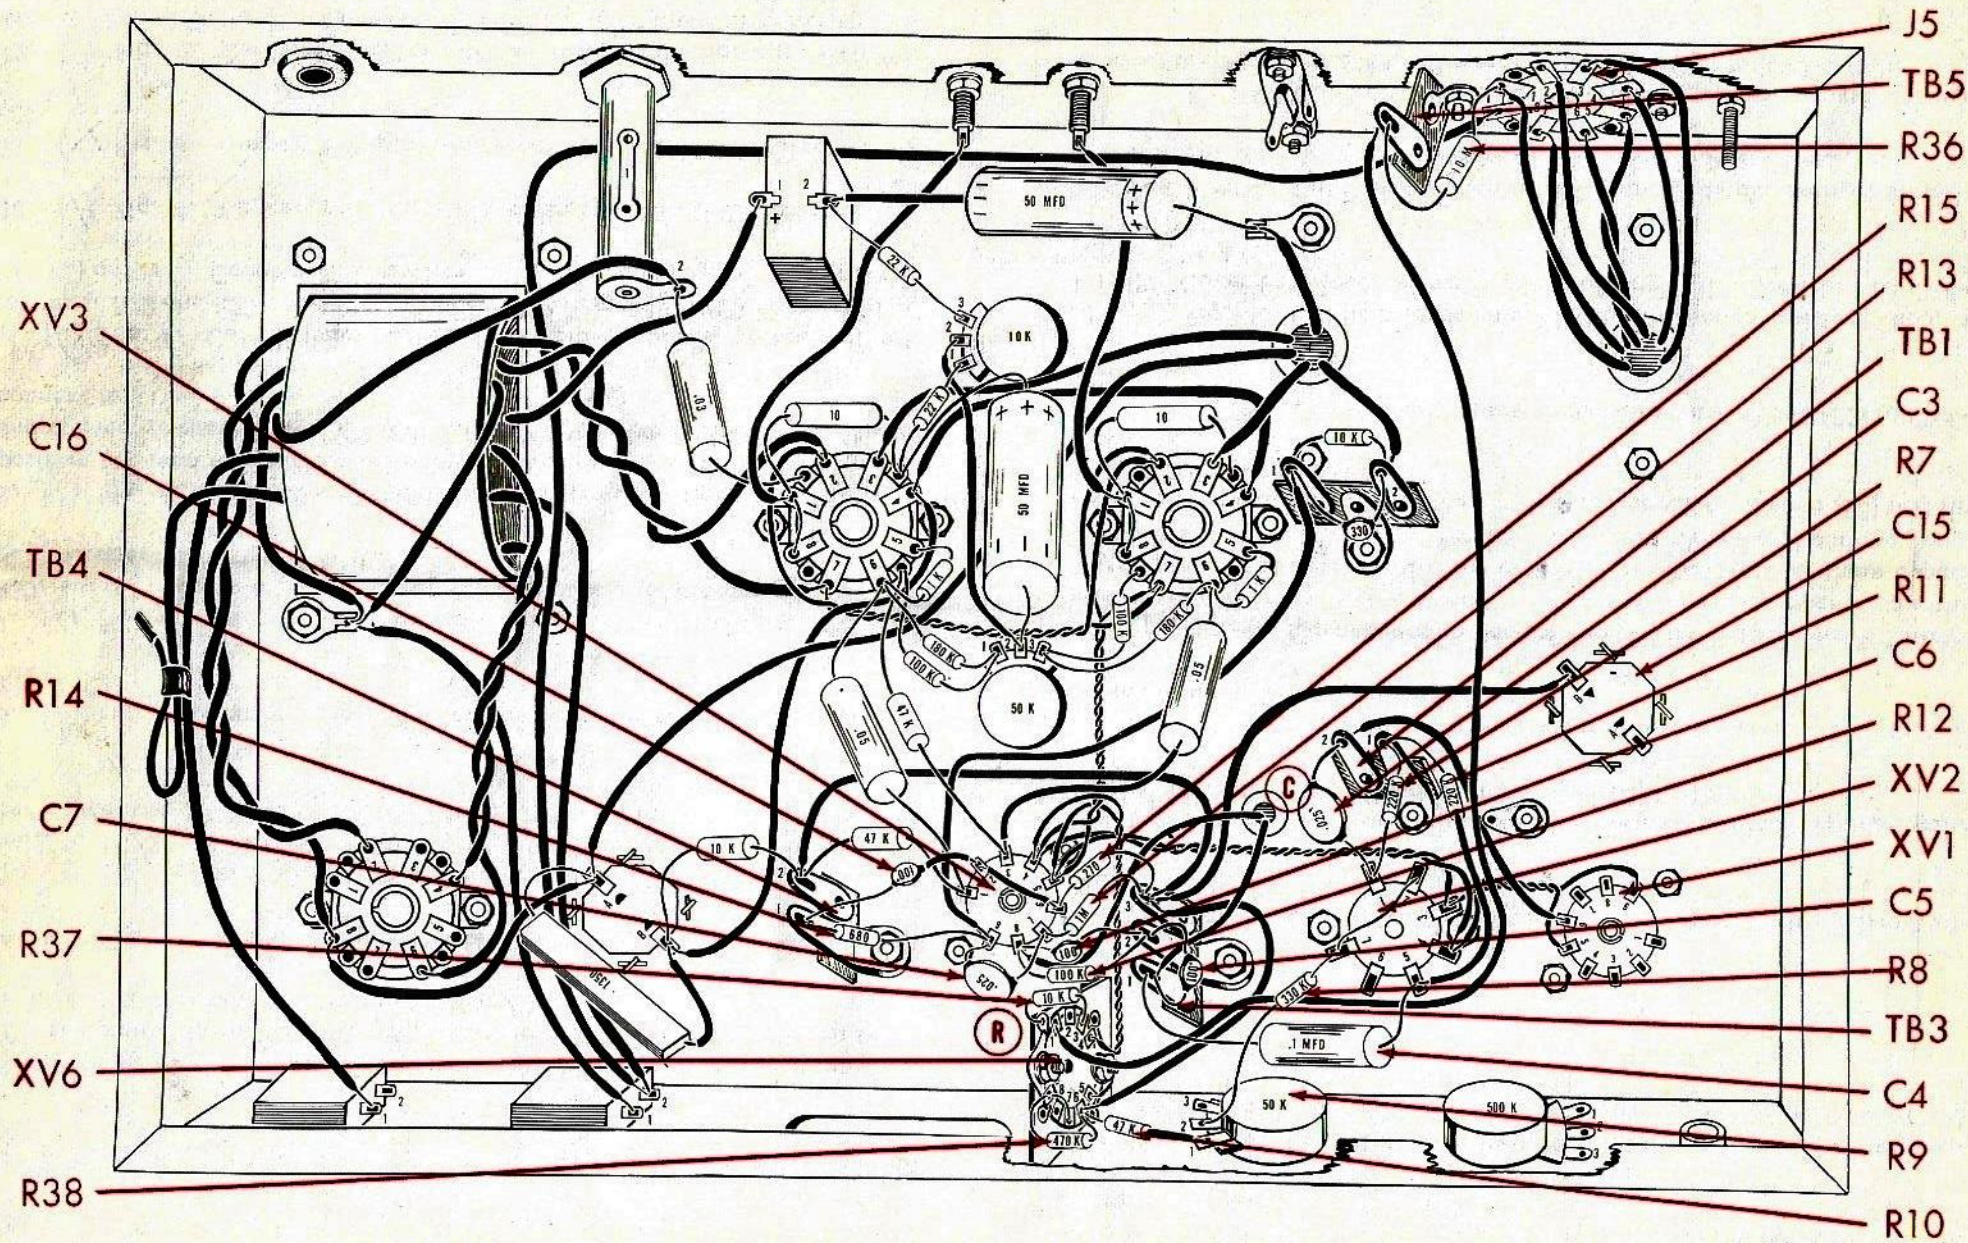

Fig. 5
1. ( ) Fig. 5. Cut both leads on a .001 mfd (1K or 1000 mmf) disc capacitor, C16, to 1". Cover both leads with a 3/4" piece of spaghetti. Connect from XV3-2 (C) to TB4-1 (C).
2. ~~(X)~~ Fig. 5. Cut both leads on a 680Ω (blue, grey, brown, silver) resistor, R14, to 3/4". Connect from XV3-9 (C) to TB4-1 (S2).
3. ~~(X)~~ Fig. 5. Connect a 1" piece of bare wire covered with a 5/8" piece of spaghetti from XV3-2 (S2) to XV3-6 (C).
4. ~~(X)~~ Fig. 5. Connect a 5" piece of red wire from TB3-3 (C) to C15-B (C).
5. ~~(X)~~ Fig. 5. From hole "C", connect the shorter lead to TB3-1 (C) and the longer lead to XV3-8 (C).
6. ~~(X)~~ Fig. 5. Cut both leads on a 10K (brown, black, orange, silver) resistor, R37, to 1/2". Connect from XV6-3 (S1) to ground lug "R" (S1) on XV6.
7. ~~(X)~~ Fig. 5. Connect a 3" piece of red wire from XV6-6 (C) to TB3-3 (C).
8. ~~(X)~~ Fig. 5. Connect a 3/4" piece of bare wire covered with a 3/8" piece of spaghetti from XV6-7 (S1) to XV6-9 (C).
9. ~~(X)~~ Fig. 5. Cut both leads on a 47K (yellow, violet, orange, silver) resistor, R10, to 3/4". Cover each lead with a 1/2" piece of spaghetti. Connect from XV6-6 (C) to R9-1 (S1).
10. ~~(X)~~ Fig. 5. Cut both leads on a 470K (yellow, violet, yellow, silver) resistor, R38, to 1/2". Connect from XV6-9 (S2) to XV6-6 (S3).
11. ~~(X)~~ Fig. 5. Bend the pot grounding lug on R9 over R9-3 and solder this pot grounding lug to R9-3 (S1).
12. ~~(X)~~ Fig. 5. Cut both leads on a 1M (brown, black, green, silver) resistor, R13, to 3/4". Connect from XV3-7 (C) to TB3-3 (C).
13. ~~(X)~~ Fig. 5. Cut both leads on a 270K (red, violet, yellow, silver) resistor, R15, to 3/4". Connect from XV3-6 (S2) to TB3-3 (S5).
14. ~~(X)~~ Fig. 5. Cut both leads on a .001 mfd (1K or 1000 mmf) disc capacitor, C6, to 3/4". Connect from XV3-8 (C) to TB3-2 (C).
15. ~~(X)~~ Fig. 5. Cut both leads on a 100K (brown, black, yellow, silver) resistor, R12, to 3/4". Connect from XV3-8 (S3) to TB3-2 (C).
16. ~~(X)~~ Fig. 5. Cut both leads on a .025 mfd (25K or 25,000 mmf) disc capacitor, C7, to 1/2". Connect from XV3-9 (S3) to XV3-7 (S2).
17. ~~(X)~~ Fig. 5. Cut both leads on a .001 mfd (1K or 1000 mmf) disc capacitor, C5, to 1/2". Connect from TB3-1 (C) to TB3-2 (S3).
18. ~~(X)~~ Fig. 5. Connect a 3" piece of red wire from TB1-2 (C) to XV1-6 (S1).
19. ~~(X)~~ Fig. 5. Connect a 11" piece of brown wire from TB5 (C) to XV6-1 (S1).
20. ~~(X)~~ Fig. 5. Cut both leads on a 10M, 1W ± 10% (brown, black, blue, silver) resistor, R36, to 3/4". Connect from J5-1 (S2) to TB5 (S2).
21. ~~(X)~~ Fig. 5. Cut both leads on a .1 mfd (brown, black, yellow, white, yellow) capacitor C4, to 1". Connect from TB3-1 (S3) to XV2-5 (C).
22. ~~(X)~~ Fig. 5. Cut both leads on a 330K (orange, orange, yellow, silver) resistor, R8, to 1". Connect from R9-2 (S1) to XV2-7 (C).
23. ~~(X)~~ Fig. 5. Connect a 3/4" piece of bare wire from XV2-7 (S2) to XV2-2 (S1).
24. ~~(X)~~ Fig. 5. Cut both leads on a 220K (red, red, yellow, silver) resistor, R7, to 1/2". Connect from XV2-1 (C) to TB1-1 (C).
25. ~~(X)~~ Fig. 5. Cut both leads on a .025 mfd (25K or 25,000 mmf) disc capacitor, C3, to 1/2". Connect from XV2-1 (S2) to TB1-2 (C).
26. ~~(X)~~ Fig. 5. Cut both leads on a 220K (red, red, yellow, silver) resistor, R11, to 1". Cover one lead with a 3/4" piece of spaghetti and connect to XV2-5 (S2). Connect the other lead to TB1-1 (S2).